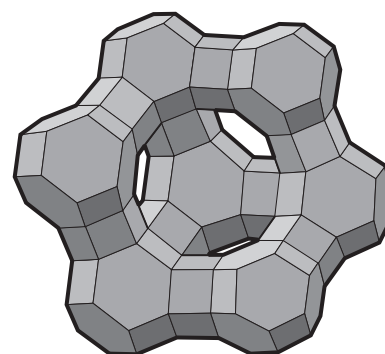

Figure 5 Type Y zeolite
- 7 You could also try making a Type Y zeolite (Figure 5). You will need more sodalite cages and some hexagon section tubes (made from Shape 2, but this time *include* the dotted parts). Join the cages through their hexagonal faces. To make a basic unit of this second zeolite structure you need ten cages and twelve hexagonal-section tubes.